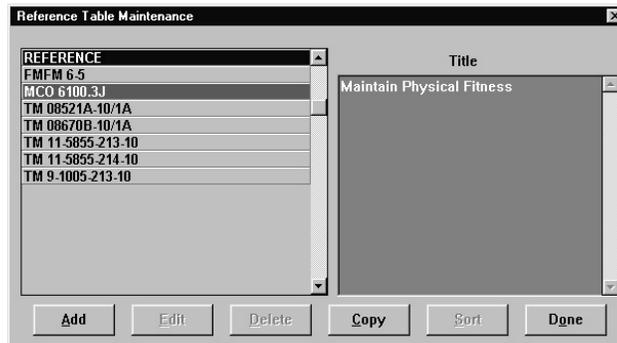
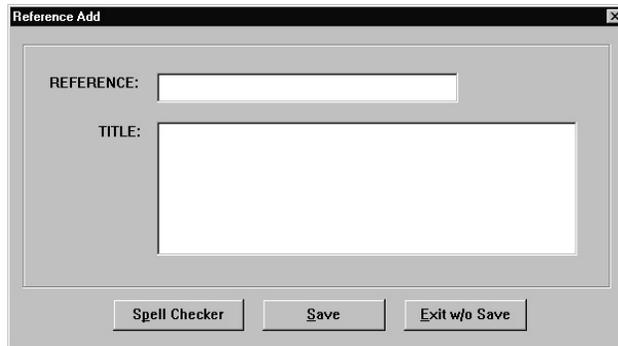
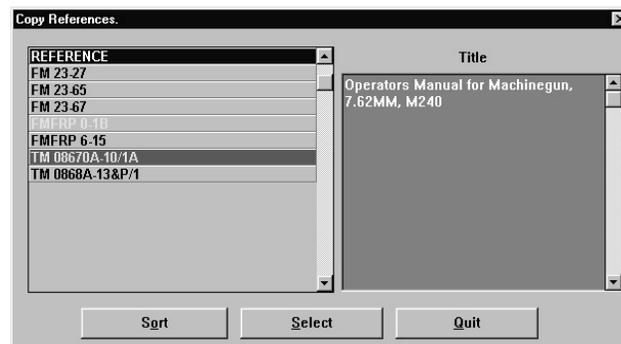

Figure 6-60. Reference Table Maintenance
Figure 6-61. References Add
Figure 6-62. Copy References
1. From the References for LO selection list box (Figure 6-58), click on **Reference Table**. The Reference Table Maintenance selection list box (Figure 6-60) opens.
1. From the Reference Table Maintenance selection list box (Figure 6-60), click on Add. The Reference Add dialog box (Figure 6-61) opens.
1. From the Reference Table Maintenance selection list box (Figure 6-60), click on **C**opy. The Copy References selection list box (Figure 6-62) opens with a list of all other references added to other courses on the same computer or server as your MCAIMS installation.